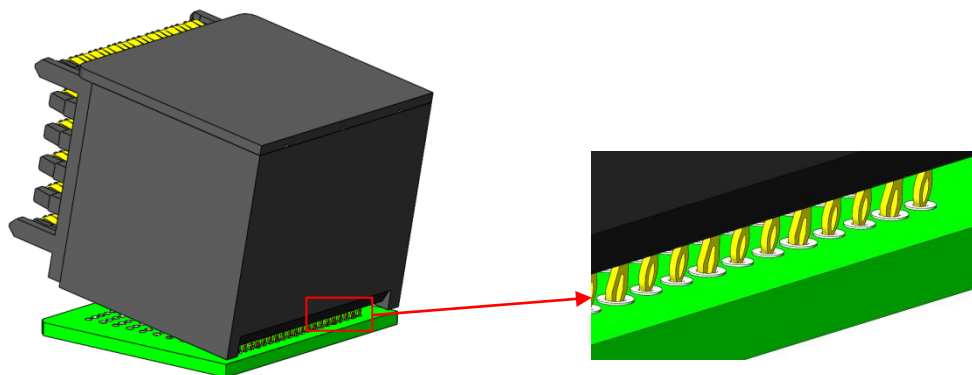

Figure 28: Last Row of EON tips Inserted Into Last Row of PCB Vias
- Begin by holding the connector at a slight angle so that the tips of the last row of press fit tails can be inserted into the last row of via holes on the PCB. Refer to Figure 28.